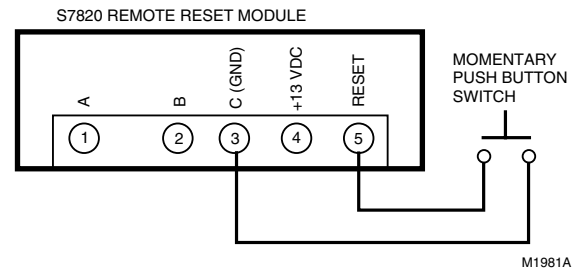

Fig. 3. Wiring Remote Reset Module.
4. Use recommended grounding practice of connecting the momentary remote reset switch to terminal 3(c) on the Remote Reset Module (see Fig. 3).